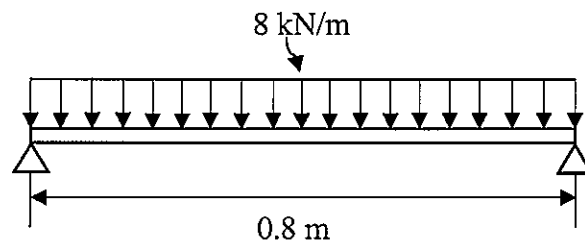

Figure 3(c) / Rajah 3(c)
- c) A 0.8 m long T shape beam supports a uniformly distributed load of 8 kN/m as illustrated in figure 3(c). Given the Young's Modulus, $E = 80$ GPa and the second moment of area, $I = 1.51 \times 10^{-6} \text{ m}^4$. Determine: